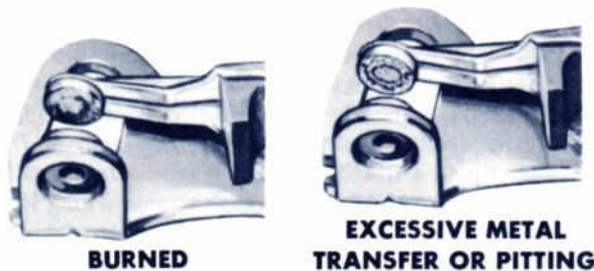

Fig. 4—Burned Breaker Points or Excessive Metal Transfer
- It causes the breaker points to become burned, or a transfer of metal from one point to the other (Fig. 4)
BURNED POINTS—Points that are burned (Fig. 4) should, of course, be replaced. If the burning is premature, the cause of the burning should also be corrected or the customer likely will return with another set of burned points. Most cases of burned points are caused by some fault in the electrical system allowing an abnormal amount of current to pass through the points—usually high voltage.